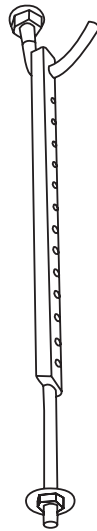

Fig. 3.4
4. Install the four suspension bolts (See Fig. 3.4).